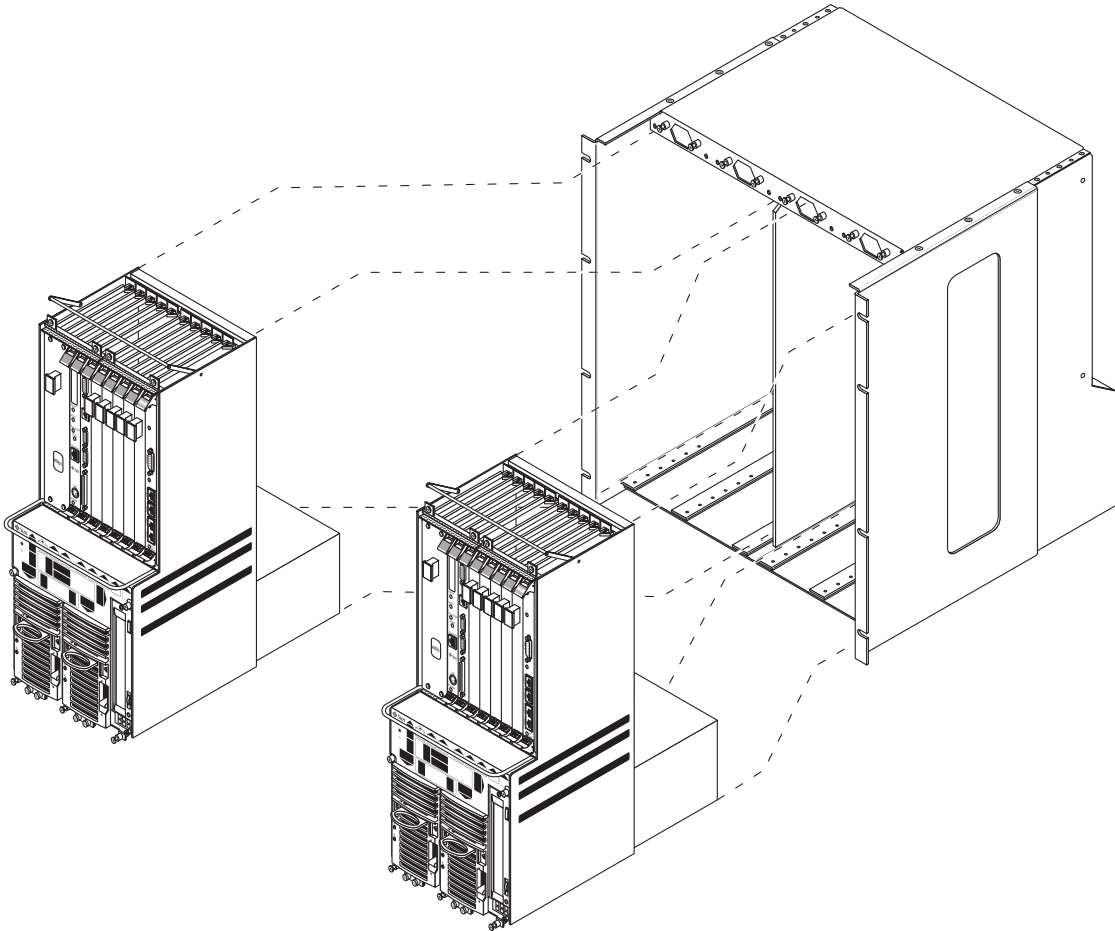

FIGURE 3-3 Two Netra CT 810 Servers in a Chassis
- One or two Netra CT 810 servers (FIGURE 3-3)